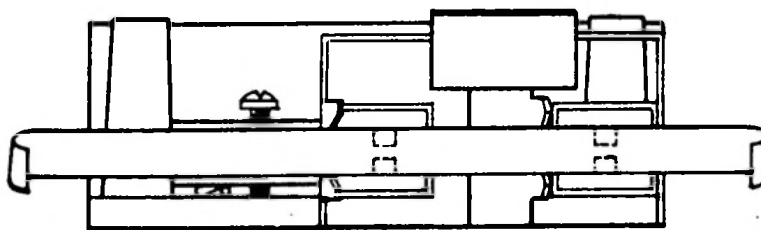

FIG. 5-5
- e) Refer to Fig.5-5 and position the mylar across the head faces and properly engaged in the tape